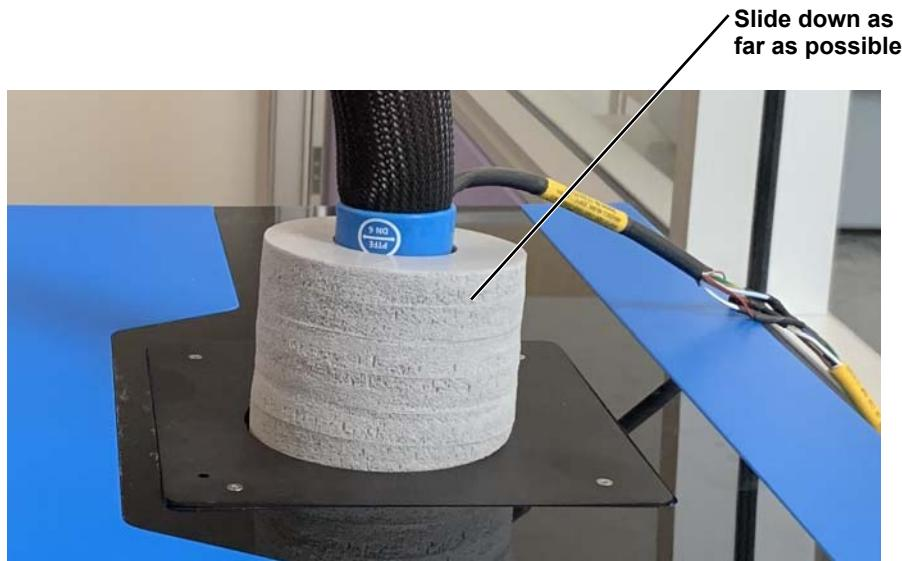

Figure D-9: Final assembly of the DAWN heated-line assembly
- 13.** Attach the replacement access hatch with four screws (see Figure D-9). Once secured, use the front panel display to confirm that the laser interlock has been satisfied by the foam assembly.